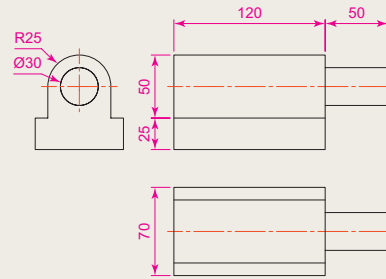

Fig. 7.25 Exercises 2 and 3
2. Fig. 7.25 is a first angle orthographic projection of the other part of the fitment. Construct a three-view third angle orthographic projection of the part.
3. Construct an isometric drawing of the part shown in Fig. 7.25.